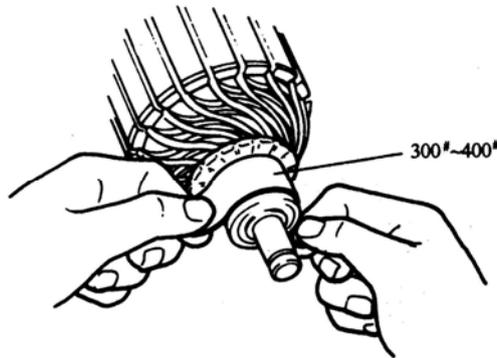

Fig.9-18
1) INSPECT COMMUTATOR (Fig. 9-18)